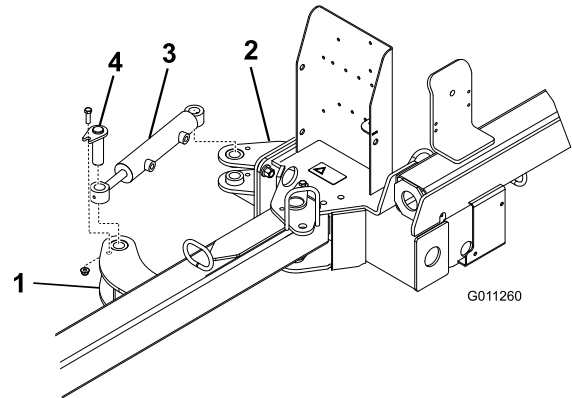

Figure 6
- Secure each end of the hydraulic cylinder to an actuator tab with a pin assembly, a $3/8 \times 1-1/4$ inch bolt and a $3/8$ inch flange nut (Figure 6). Make sure the rod end (working end) of the cylinder is attached to the front actuator tab.